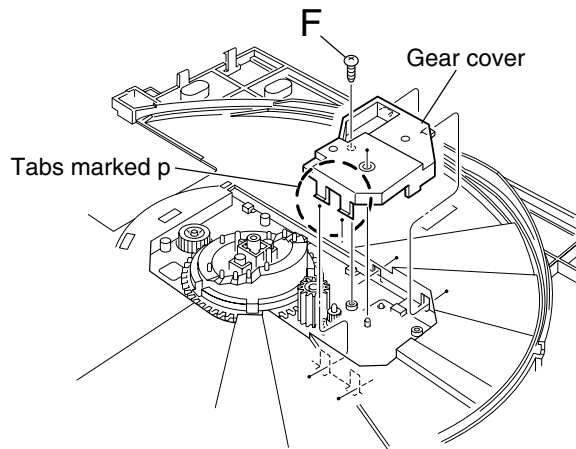

Fig.15
■ Removing the cam switch board assembly (See Fig.15 to 17)
• Prior to performing the following procedure, remove the main tray cover, the U/D cam (U) and the sub trays.
2. Remove the cam gear (2) upward.